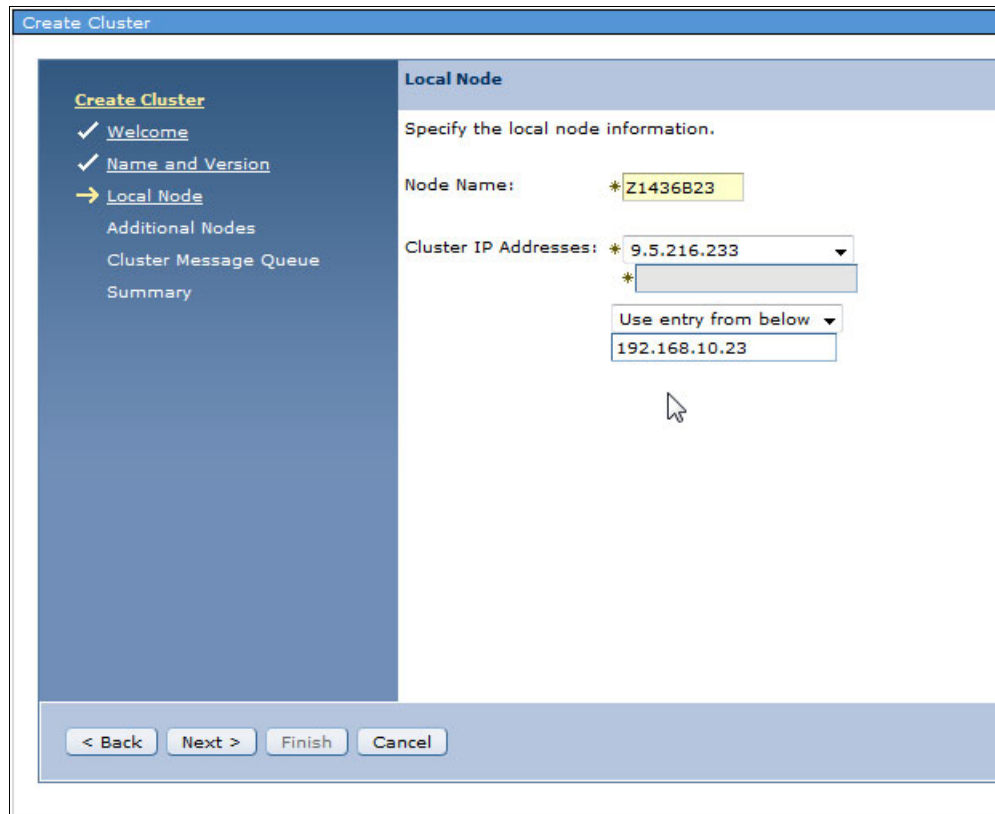

Figure 4-9 Cluster creation, local node specifications
- In the Create Cluster Local Node panel, provide information about the local cluster node, as shown in Figure 4-9. Specify a node name and one or two IP addresses that are used for cluster communication. You can enter these addresses manually or click the **Use entry from below** drop-down menu and select the address from the list that is shown.